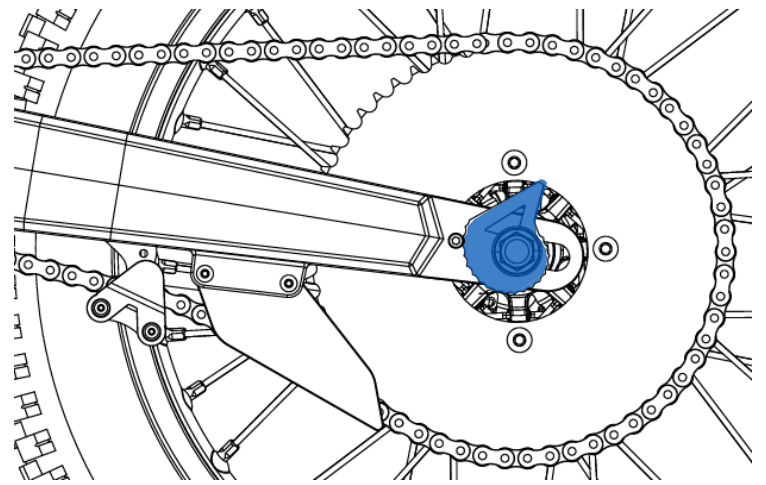

Fig. 23b
- 4- Once half of the travel has been exceeded, the eccentric must be turned to adopt the position that guarantees an optimal adjustment up to the maximum limit of the travel, as shown in Figure 23b.